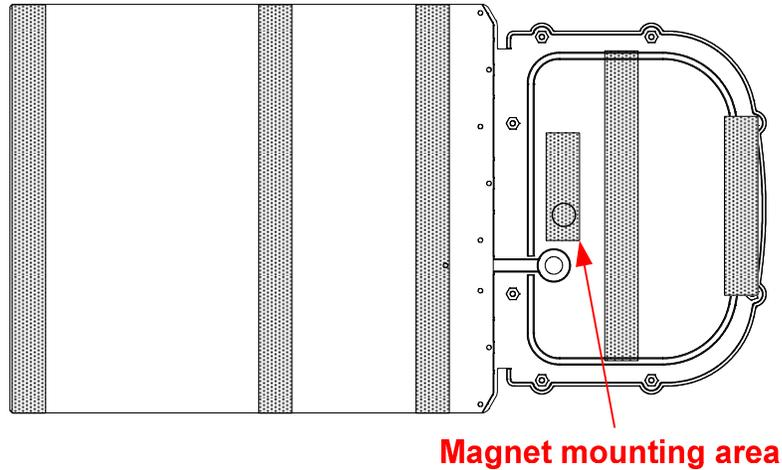

Figure 2
6.3.2. Clean the area where the tape (see Figure 2) will be applied using the 50-50 IPA and water solution and a clean lint free towel. Ensure any dirt, film,
- 6.4.1. Flip back the short piece of VHB(TM) (Very high Bond Tape) on the MCU and install the magnet in the pocket under where the tape will be applied. See Figure 2.
THE MAGNET SHALL BE PLACED AS SHOWN IN FIGURE 2 BEFORE INSTALLING THE MCU, IF THE MAGNET IS NOT PLACED PROPERLY, THE DEVICE WILL NOT WORK